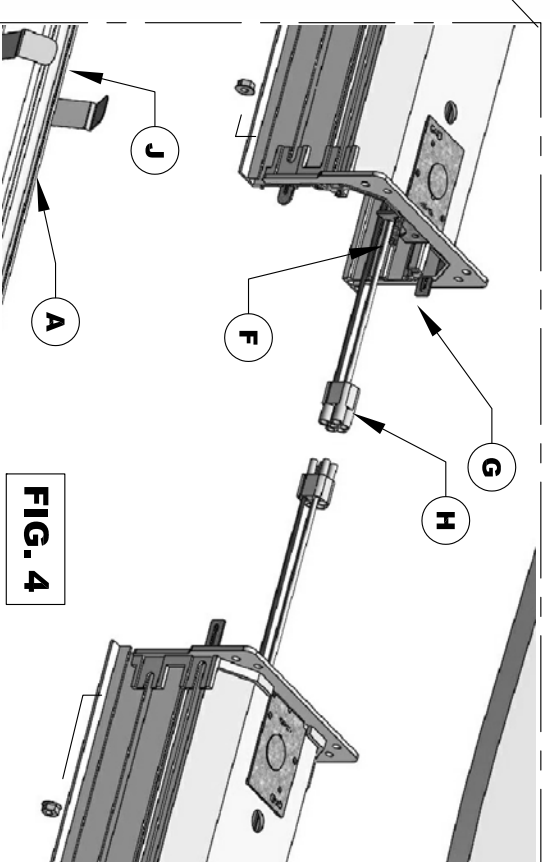

FIG. 4
POSITION NEXT FIXTURE SUCH THAT THE ALIGNMENT TABS (G) (REF. FIG. 4) FIT INTO THE FIRST FIXTURE. MAKE CONNECTION OF THE WIRE HARNESS (H) AND PUSH EXCESS WIRE BACK INTO THE FIXTURE. MAKE SURE THAT WIRE IS NOT PINCHED BETWEEN JOINT AND SLIDE FIXTURES TOGETHER. DRAW FIXTURE UP TO CEILING BY TIGHTENING PAL NUTS (E) ONTO THREADED ROD. DRAW FIXTURES SNUGLY TOGETHER HORIZONTALLY BY TIGHTENING TWO 1/4-20 NUTS ONTO THREADED STUDS (F) OF JOINT ACCESS PLATE.